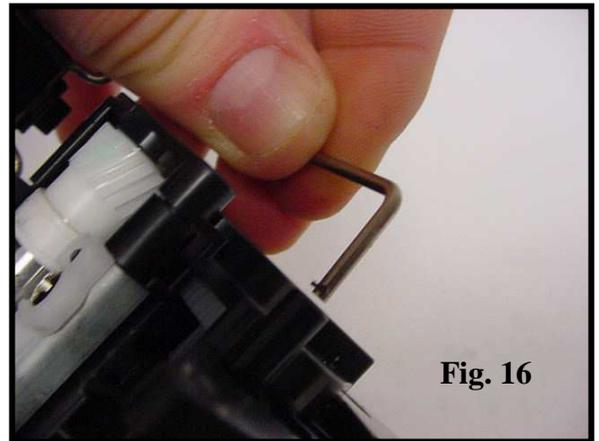

Fig. 16
16. On the toner hopper, remove the metal bar on the drum shutter from the cartridge (Fig. 16).